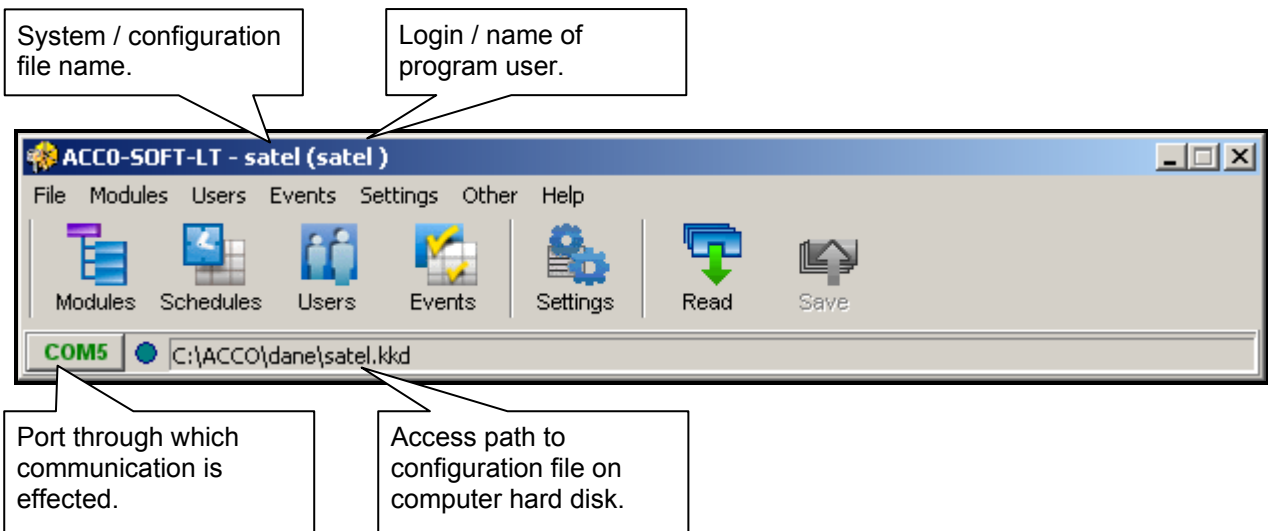

Fig. 21. Program menu bar after creating the configuration file.
5. After creating the configuration file (or opening the already existing file) the appearance of the program menu bar will change (see Fig. 21). The entire menu will be available, including the other buttons.
- Having configured the module(s), save the new settings. The SAVE button in the modules window enables saving the data to the selected module. The SAVE button available on the program menu bar (see Fig. 21) makes it possible to save the data to all system modules whose settings have been changed.